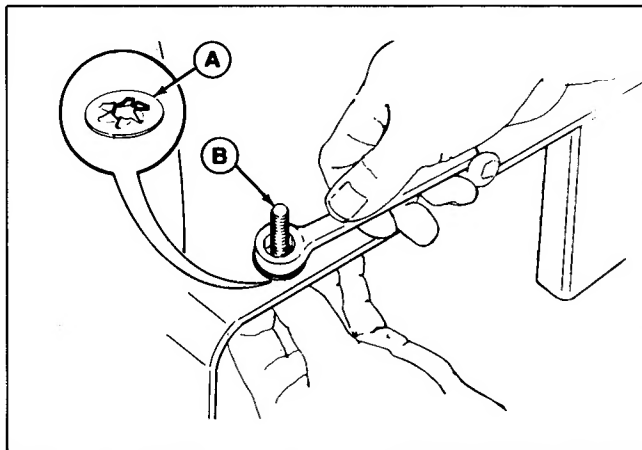

Figure 16.
- Re-install the deflector carriage bolts (A, figure 16) removed in step 2. Secure bolts using the supplied push nuts (B). Push nuts can be installed by pushing down with box end wrench.